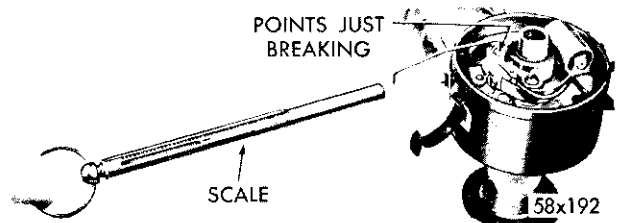

Fig. 36—Testing Breaker Arm Spring Tension
(1) Hook a spring scale Tool MTU-36 on the breaker arm and pull in a straight line at right angles to the point surfaces (Fig. 36). Take a reading as the points start to separate. The spring tension should be 17 to 21.5 ounces. If not, loosen the screw which holds the end of the point spring and slide the end of the spring in or out as necessary. DO NOT pull conductor ribbon tight against the spring as this will cause the ribbon to fatigue and break. Retighten the screw and recheck the spring tension.